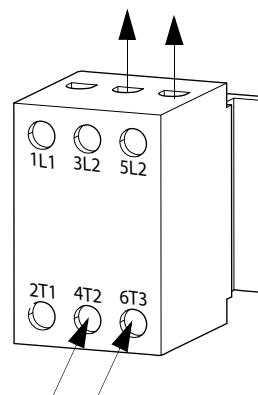

Fig. 9: Disconnect Switch Terminal Block
9. Attach the ground wire to the ground stud inside the junction box (K).
10. Refer to FIG. 9 and connect the wires from the power cord into terminals 4T2 and 6T3 on the disconnect switch terminal block.